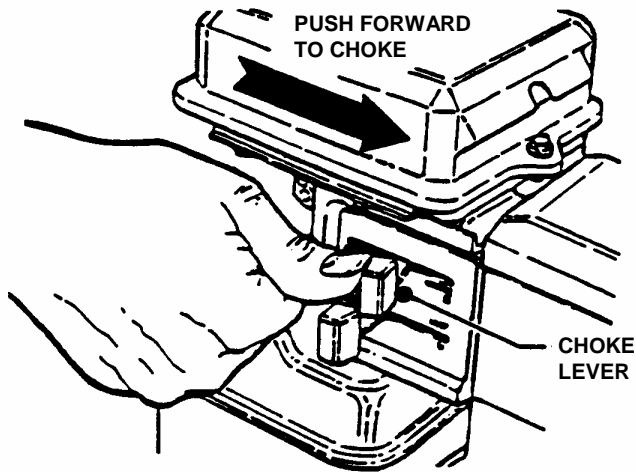

FIGURE 5
STEP 2: For cold starts, move the CHOKE CONTROL on the engine forward into CHOKE position. See Figure 5.